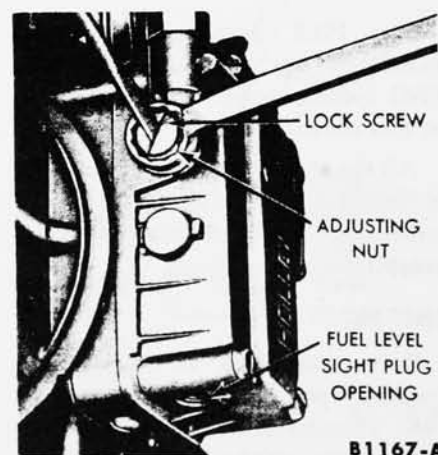

FIG. 10—Fuel Level Adjustment
With the engine stopped, remove the fuel level sight plug and gasket and check the fuel level (Fig. 10). The fuel level within the bowl should be at the lower edge of the sight plug opening $\pm 1/16$ inch.
2. With the engine stopped, loosen the lock screw on top of the fuel bowl just enough to allow rotation of the adjusting nut underneath (Fig. 10). **Do not loosen the lock screw or attempt to adjust the fuel level with the engine running because the pressure in the line will spray fuel out and present a fire hazard.**